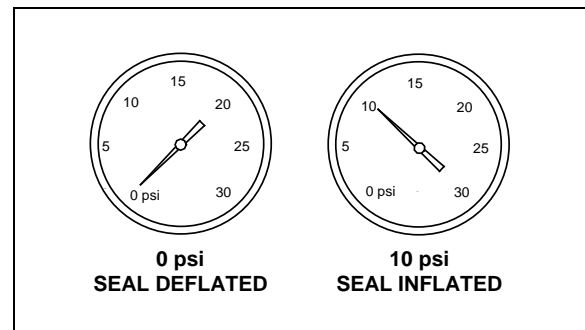

FIGURE 93 : INFLATABLE SEAL PRESSURE GAGE
- Finally, the inflatable seal can be re-inflated by turning the shut-off valve handle counterclockwise. Check the pressure gage on the inflatable seal regulator to see if the pressure is increasing to 10 psi (FIGURE 93).
7. Finally, the inflatable seal can be re-inflated by turning the shut-off valve handle counterclockwise. Check the pressure gage on the inflatable seal regulator to see if the pressure is increasing to 10 psi (FIGURE 93).